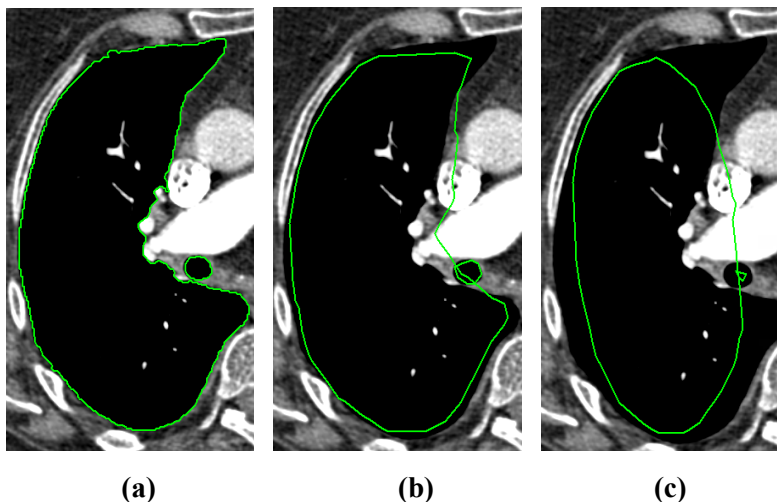

Figure 250 – Source ROI (a), once smoothed ROI (b), 5 times smoothed ROI (c)
4. Click the **Apply** button as many times as necessary to achieve the desired setting. Whenever you press this button, selected ROI contours will be rounder. The result is immediately displayed in the current view (see Figure 250).